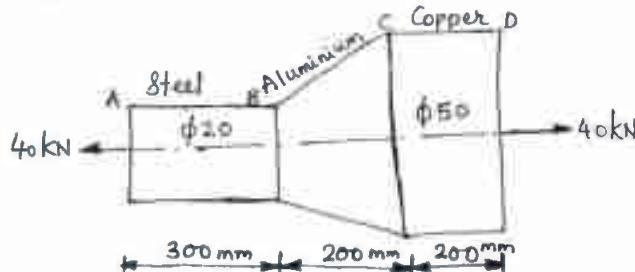

Fig. Q1(c)
- c. A stepped bar is subjected to an external loading as shown in Fig. Q1(c). Calculate the change in the length of bar. Take $E = 200\text{GPa}$ for steel, $E = 70\text{GPA}$ for Aluminum and $E = 100\text{ GPa}$ for copper. (10 Marks)